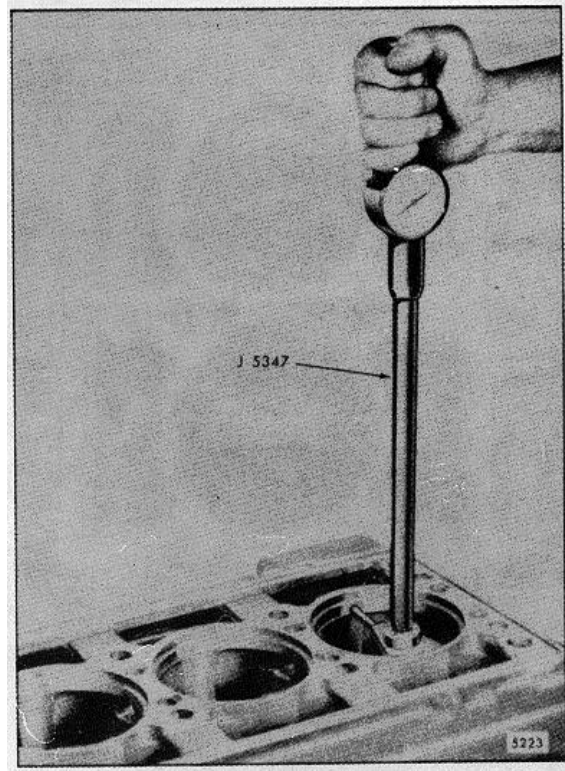
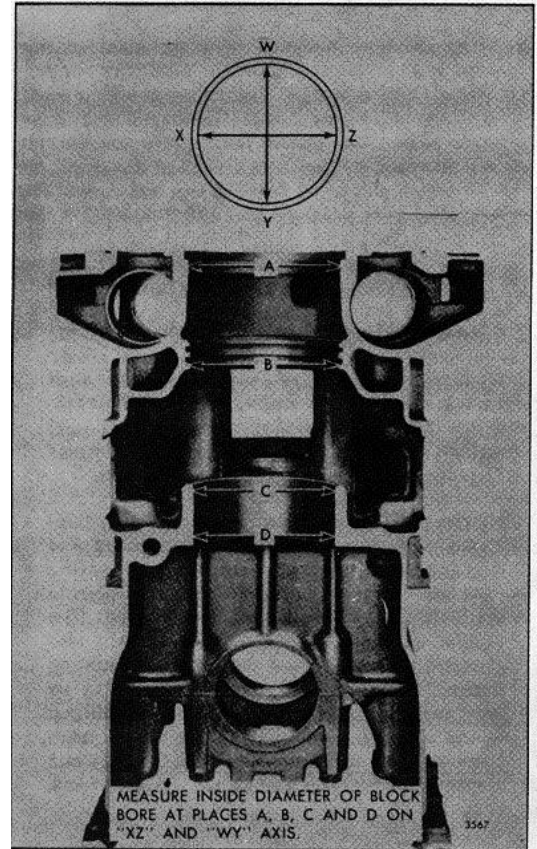

Fig. 12 - Checking Cylinder Block Bore with Tool J 5347
Fig. 13 - Block Bore Measurement Diagram
b. Measure the entire bore of each cylinder with cylinder bore gage J 5347 (Fig. 12) which has a dial indicator calibrated in .0001" increments. Use dial bore gage setting tool J 23059 to preset the cylinder bore gage to zero. Measure each block bore at the positions indicated in Fig. 13, on axis 90 ° apart. If the diameter does not exceed 4.5235 " at position "A", 4.4900 " at position "B" (and a sealing problem hasn't occurred), or 4.3595 " at position "C" and "D", then the block may be reused. Also, the taper and out of round must not exceed .0015 ".